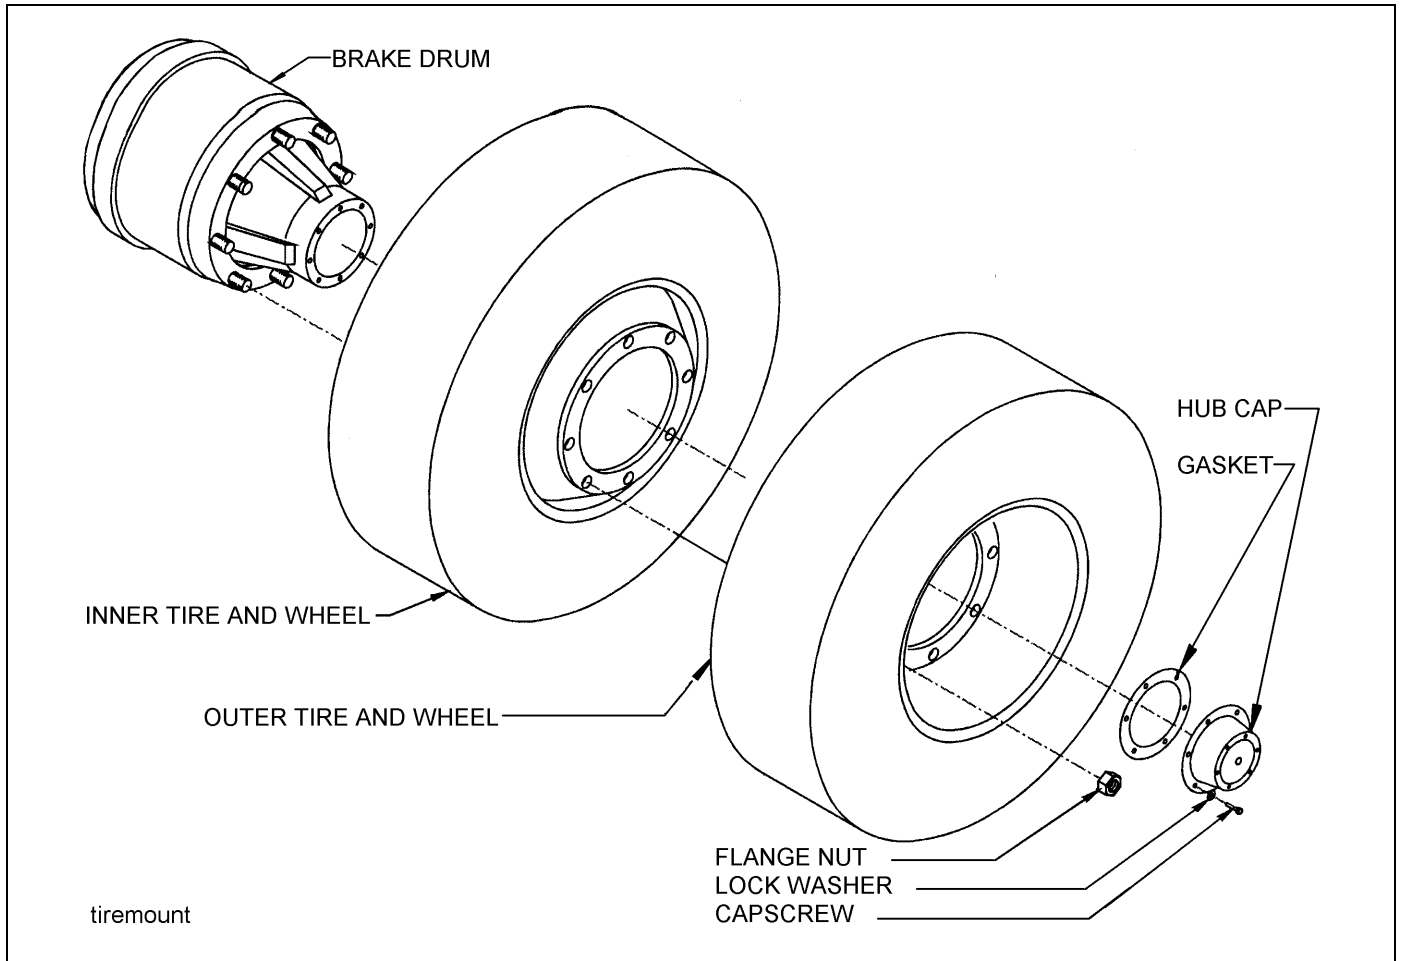

Figure 4-18: Mounting Tires and Wheels
1. Make sure that all mounting surfaces are clean and free of rust, dirt or paint. A wire brush may be used to clean these surfaces (**See Figure 4-18.**)